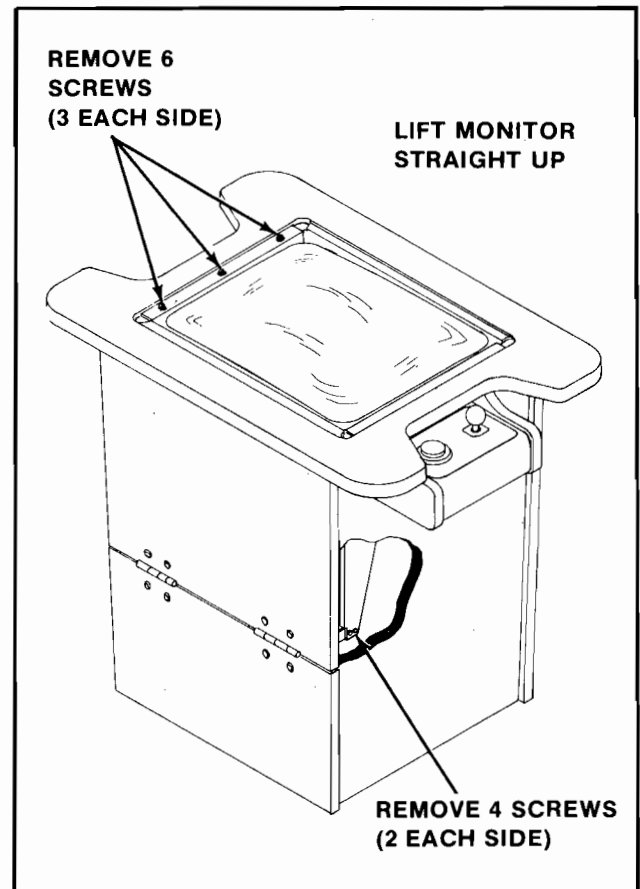

Figure 2-11 Removing the Monitor — Cocktail
**3. COCKTAIL TABLE MODEL:** See Figure 2-11.
- Remove the screws holding the T.V. monitor chassis to the "L" by the door hinge(s). See Figure 2-11.
- Remove the screws which secure the T.V. monitor mounting brackets to the edges of the slot cut in the table top. See Figure 2-11.